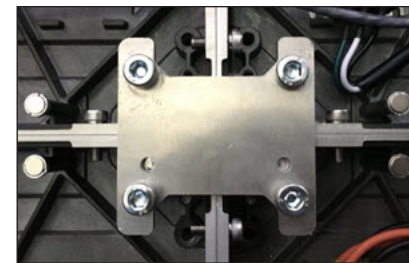

Figure 25: Align Panel Faces
- Use a 6 mm Allen wrench to attach the flattening jig to the front of the panels, and ensure the panel faces are completely flush. Refer to **Figure 25** and **Flatten Panels (p.4)**.